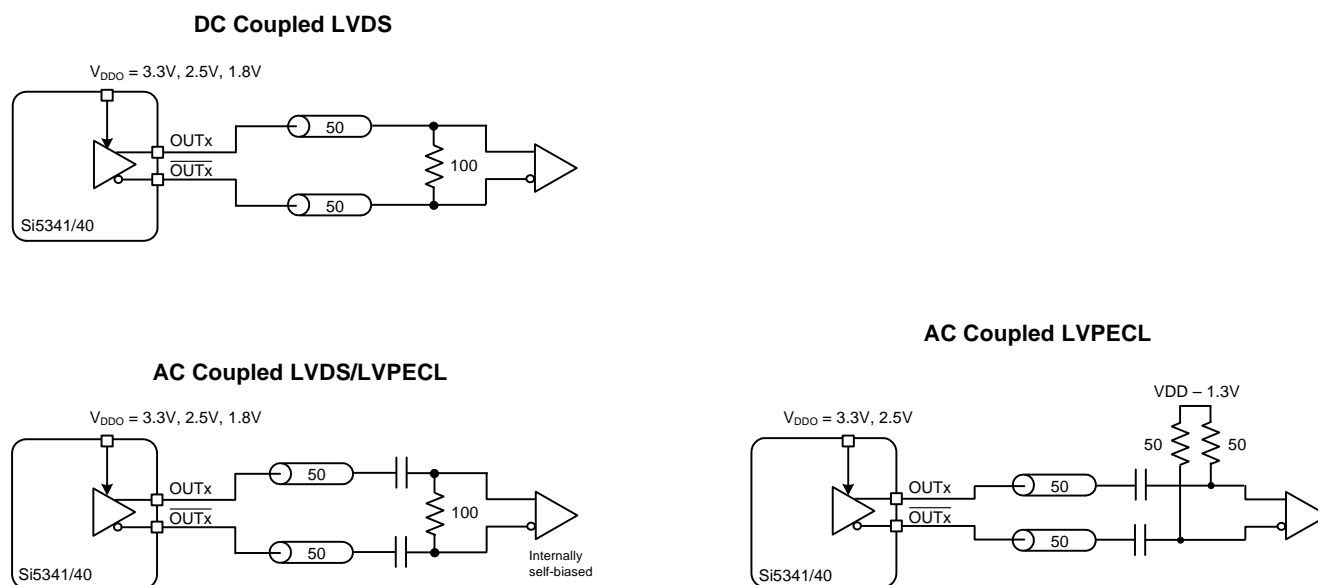

Figure 10. Supported Differential Output Terminations
The differential output drivers support both AC coupled and DC coupled terminations as shown in Figure 10.
- Differential Normal Swing Mode:** When an output driver is configured in normal swing mode, its output swing is selectable as one of 7 settings ranging from 200 mVppse to 800 mVppse in increments of 100 mV. The output impedance in the Normal Swing Mode is 100Ω differential. Any of the terminations shown in Figure 10 are supported in this mode.
- Differential High Swing Mode:** When an output driver is configured in high swing mode, its output swing is configurable as one of 7 settings ranging from 400 mVppse to 1600 mVppse in increments of 200 mV. The output driver is in high impedance mode and supports standard 50Ω PCB traces. Any of the terminations shown in Figure 10 are supported in this mode.